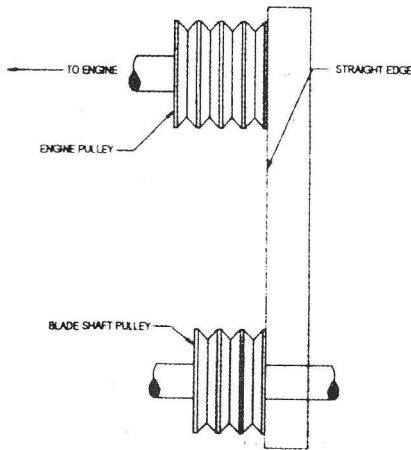

Figure 1
2. Take up tension until the belts are snug in the grooves. Run the drive for about five (5) minutes to “seat” the belts. The belts. The impose the peak load. If the belts slip, tighten them until they no longer slip at peak load. Most new belts will need additional tensioning after seating.
- 6. To check alignment, use a steel straight edge. See Figure 1.
- 7. Line up the straight edge along the outside face of both pulleys shown in the drawing. All pulleys have (2) set screws in the bottom of their grooves. Set screws require thread locking locking lock title.